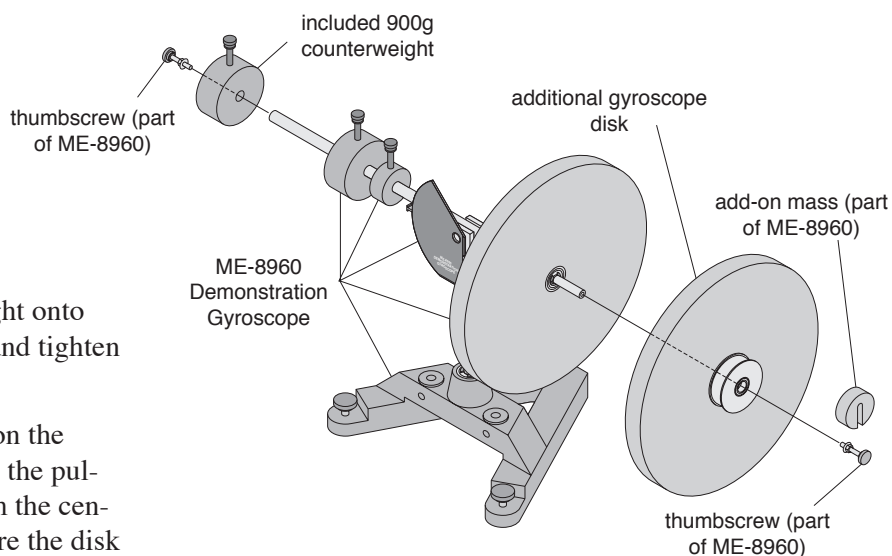

Figure 1: Using the Additional Gyroscope Disk
- ① Slide the included 900g counterweight onto the long side of the gyroscope axle and tighten the thumbscrew.
- ② Put the Additional Gyroscope Disk on the other end of the gyroscope axle with the pulley side of the disk facing away from the center of the gyroscope apparatus. Secure the disk in place with the supplied thumbscrew. See Figure 1.